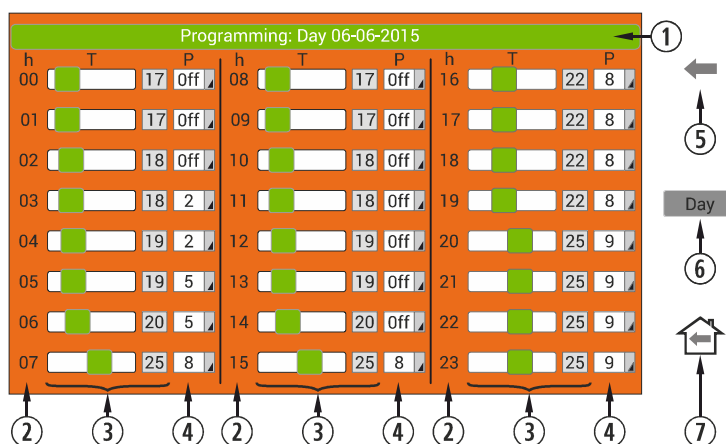

Figure 20
Is important to validate such programming by selecting the saving option (point ⑥, figure 20) after the programming has been performed.
①	Schedule 1, 2 3 and 4.
②	Back to previous screen.
③	Back to main screen.